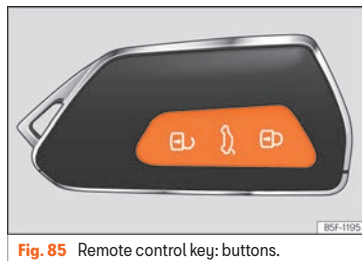

Fig. 85 Remote control key: buttons.
- Lock: press the  » **Fig. 85** button.